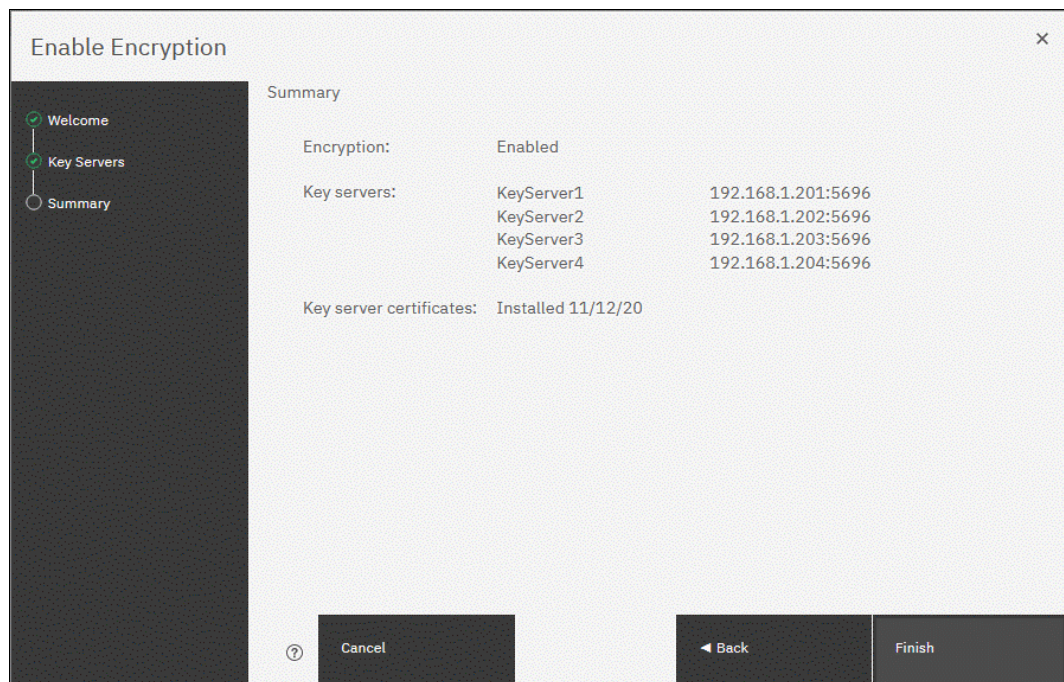

Figure 12-44 Finishing the enablement of encryption by using SafeNet KeySecure key servers
- The key server configuration is shown in the **Summary** tab, as shown in Figure 12-44. Click **Finish** to create the key server object and finalize the encryption enablement.